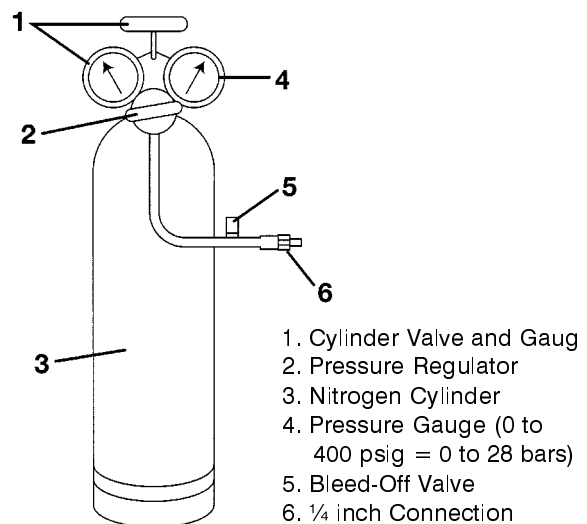

Figure 3-4. Typical setup for Testing High Pressure Switch 1 and HP2
Do not use a nitrogen cylinder without a pressure regulator. Cylinder pressure is approximately 165 kg/cm² (2350 psi). Do not use oxygen in or near a refrigerant system as an explosion may occur. (See Figure 3.4).
- Connect switch to a cylinder of dry nitrogen (see Figure 3.4).